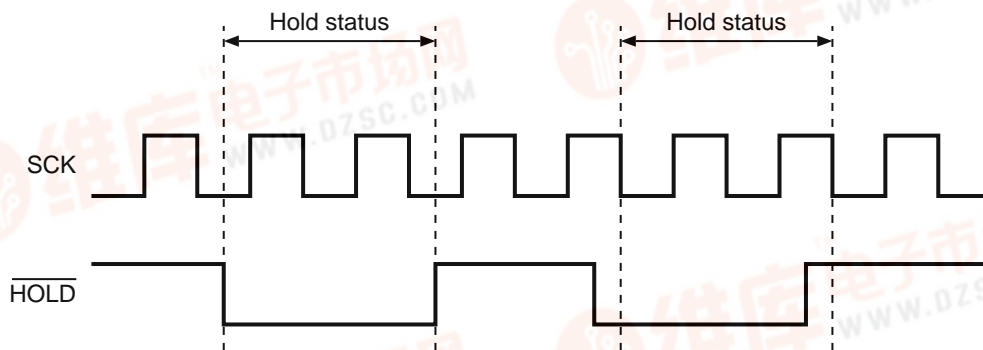

Figure 18 Hold Operation
**Figure 18** shows the hold operation. Set Hold ( $\overline{HOLD}$ ) to “L” when the serial clock (SCK) is in “L”, Hold ( $\overline{HOLD}$ ) is switched at the same time the hold status starts. If setting Hold ( $\overline{HOLD}$ ) to “H”, Hold ( $\overline{HOLD}$ ) is switched at the same time the hold status ends.